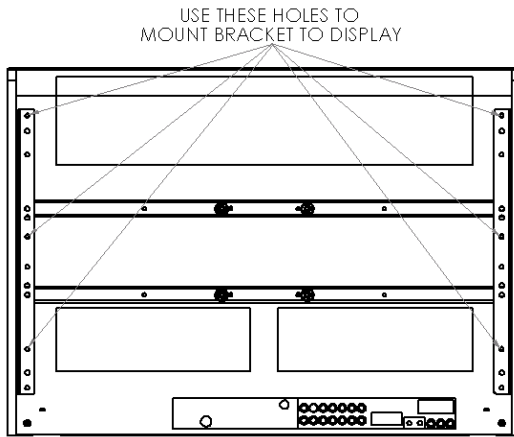
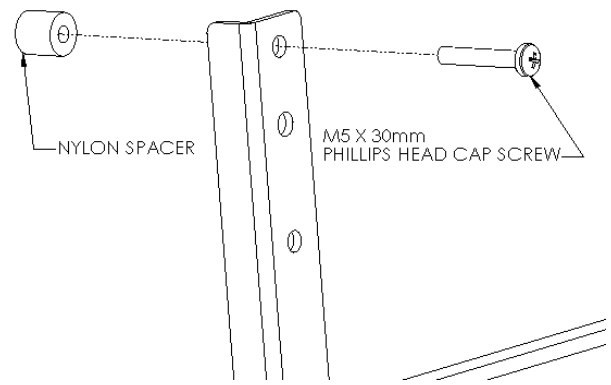

Figure 5
Figure 6
- Place Nylon spacers on mounting holes, aligning hole pattern on *side* brackets with pattern on back of display (see Figure 5 and Figure 6).